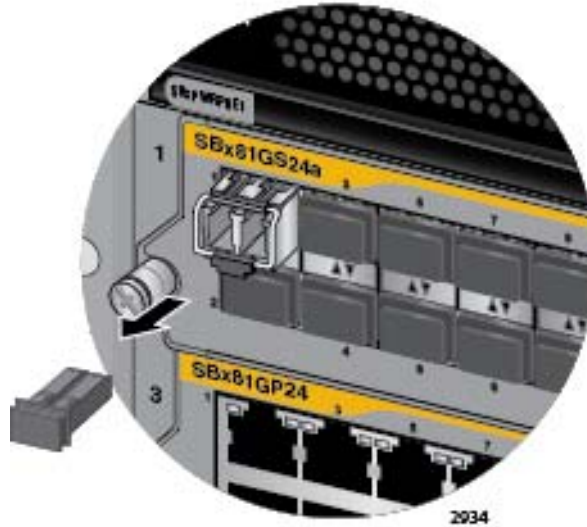

Figure 96. Removing the Dust Cover from a Transceiver
4. Remove the protective cover from the transceiver. Refer to Figure 96 on page 159.